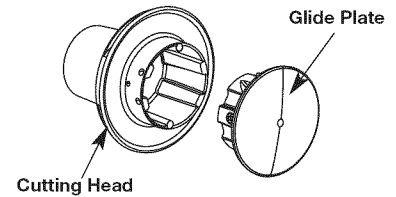

Fig. 22
- Reinstall line glide plate (Fig. 22). The glide plate is a keyed item and will only fit one way. If it does not go into the cutting head smoothly, DO NOT force it. Rotate the glide plate until it slides into the cutting head easily.